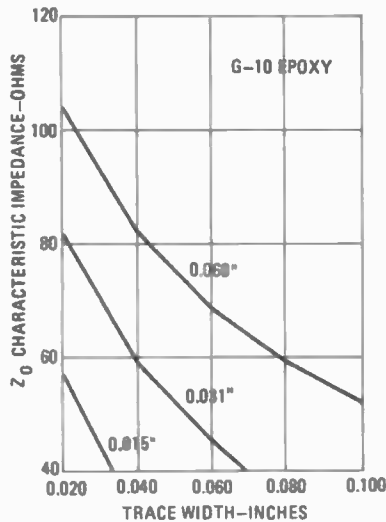

FIG. 4—USE THIS CHART to determined microstrip trace width for various impedances and thicknesses of G-10 epoxy board.
Figure 4 is the functional simplified schematic for a field telephone (do not attempt to build that circuit). Momentary switch S4 is not part of the field telephone, it is added when the phone is converted to a Red Box; so for now, consider that S4 does not exist. Once again, S1 is the hook switch. When S2 is set to N (NORMAL) and S1 is closed, DC flows from line A through T1's secondary (S),
FIG. 4—A SIMPLIFIED RED BOX. Switch S2 lifts the handset from the telephone line and connects two D-cells as a local power supply. The circuit is DC-isolated from the telephone line even when hook switch S1 is closed.
strip are given in PC Service. The recommended printed-circuit board material is double-clad 0.060-inch G-10 epoxy board. The pattern shown is intended for 75-ohm operation. For alternate impedances ( $Z_0$ ) or different thicknesses of G-10 board, you will need to change both the input and the output trace widths; refer to the chart shown in Fig. 4, which shows the characteristic impedance vs. signal-trace width required for various G-10 thicknesses. For example, a 50-ohm  $Z_0$  (characteristic impedance) and a 0.031-inch G-10 board requires a signal trace width of approximately 0.050-inch.